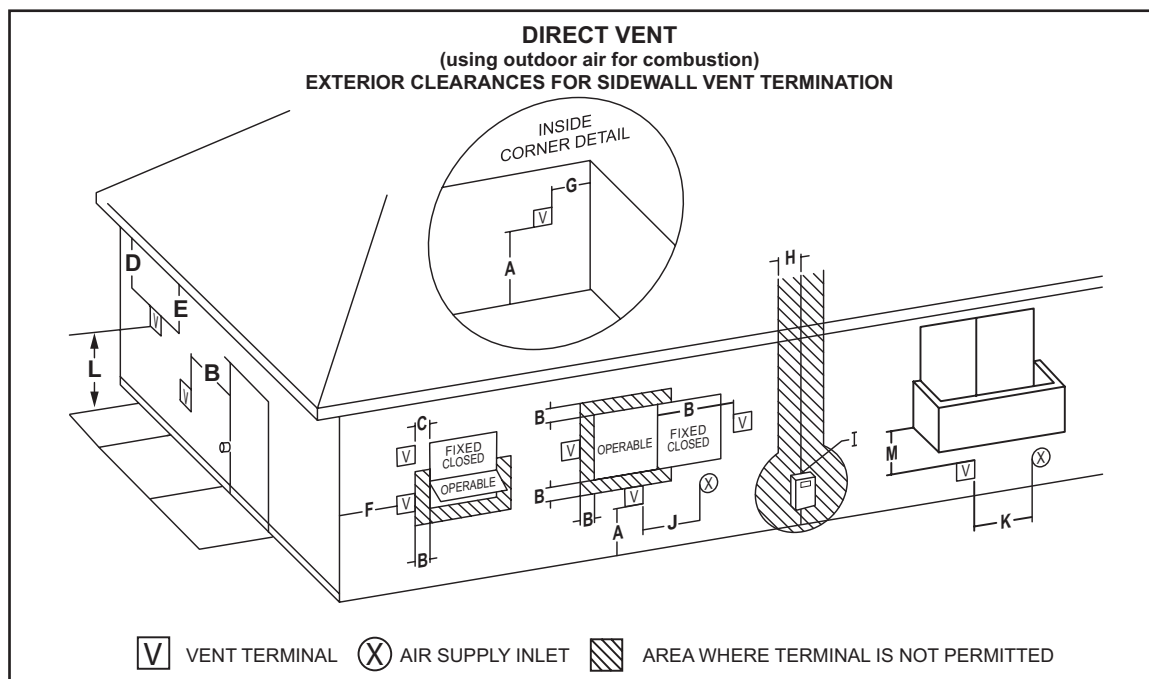

Figure 49
5. When installing a concentric termination through a sidewall; ensure that all exterior sidewall clearance requirements for the termination, shown in Figure 49 on page 37, are being maintained. These clearances and those cited by local and national codes must be maintained.